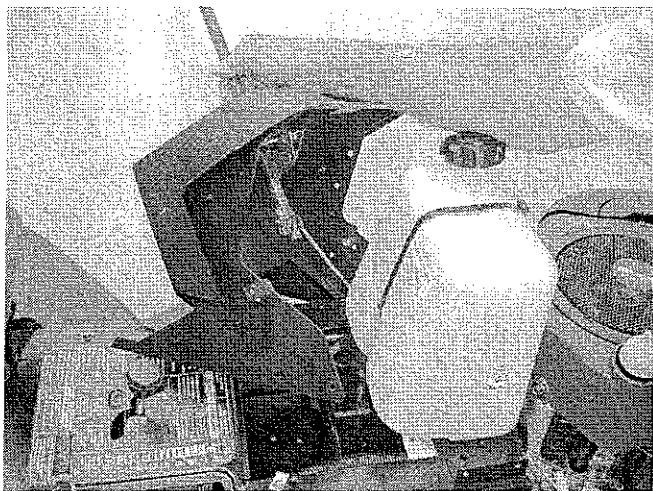

FIGURE 8
16. Lift and pivot the dash panel to the left while removing the steering shaft from the bushing in the frame. See Figure 8.